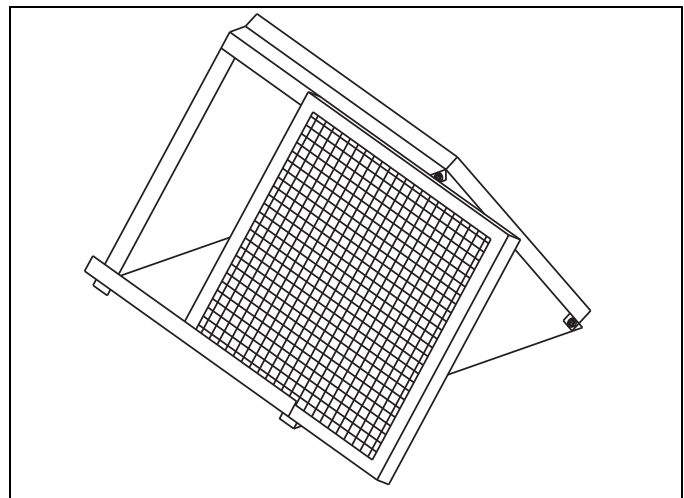

FIGURE 5: Mobile Home Filter Frame
Modular Home downflow furnaces requiring a return duct system by Local, State, or Regional Codes will have the filters located on the top of the furnace in an external filter rack located inside the return air plenum as shown in Figure 5. To check, clean or replace the air filters you should:
2. Filters that are installed in the return air plenum above the blower assembly and are located in an "V" frame assembly that supports the filters as shown in Figure 5.
2. Filters that are installed on the top of the furnace above the blower assembly and are located in an "A" frame assembly that supports the filters as shown in Figure 5.